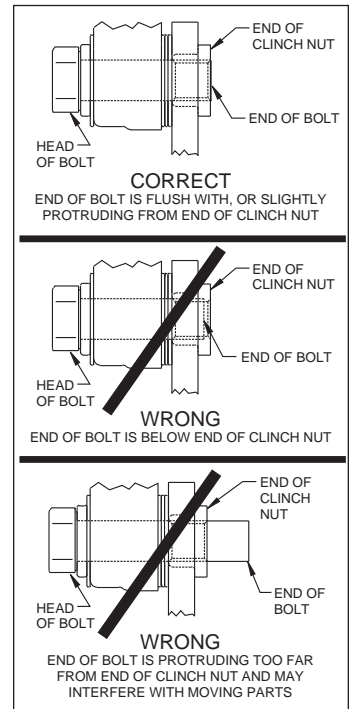

Figure 3. Clinch Nut Engagement Diagram
Assembly Instructions (numbers in parenthesis refer to the parts list, on the preceding page and Figure 1): **CAUTION:** All mounting bolts must fully engage clinch nuts. Be sure to check that all bolts are either flush or protruding through flanged side of clinch nut after shimming, Figure 3.
- NOTE:** Please reference the caution statement at the beginning of the assembly instructions. Mount the caliper (17) onto the caliper mounting bracket (1) using bolts (19) and washers (18), as shown in Figure 1. Initially place two .035" thick shims (20) on each bolt between the caliper and the bracket, Photo 8. Temporarily tighten the mounting bolts and view the rotor (10) through the top opening of the caliper. The rotor should be centered in the caliper, Photo 9. If not, adjust by adding or subtracting shims between the bracket and the caliper. Always use the same amount of shims on each of the two mounting bolts. **NOTE:** The end of each bolt must be flush with or slightly protruding from the head of the clinch nut, as shown in Figure 3. If necessary place spare shims between washer (18) and caliper mounting ear to achieve the proper clinch nut engagement. Once the caliper alignment and clinch nut engagement are correct, remove the bolts one at a time, apply red *Loctite*® 271 to bolt threads, and torque to 40 ft-lb.